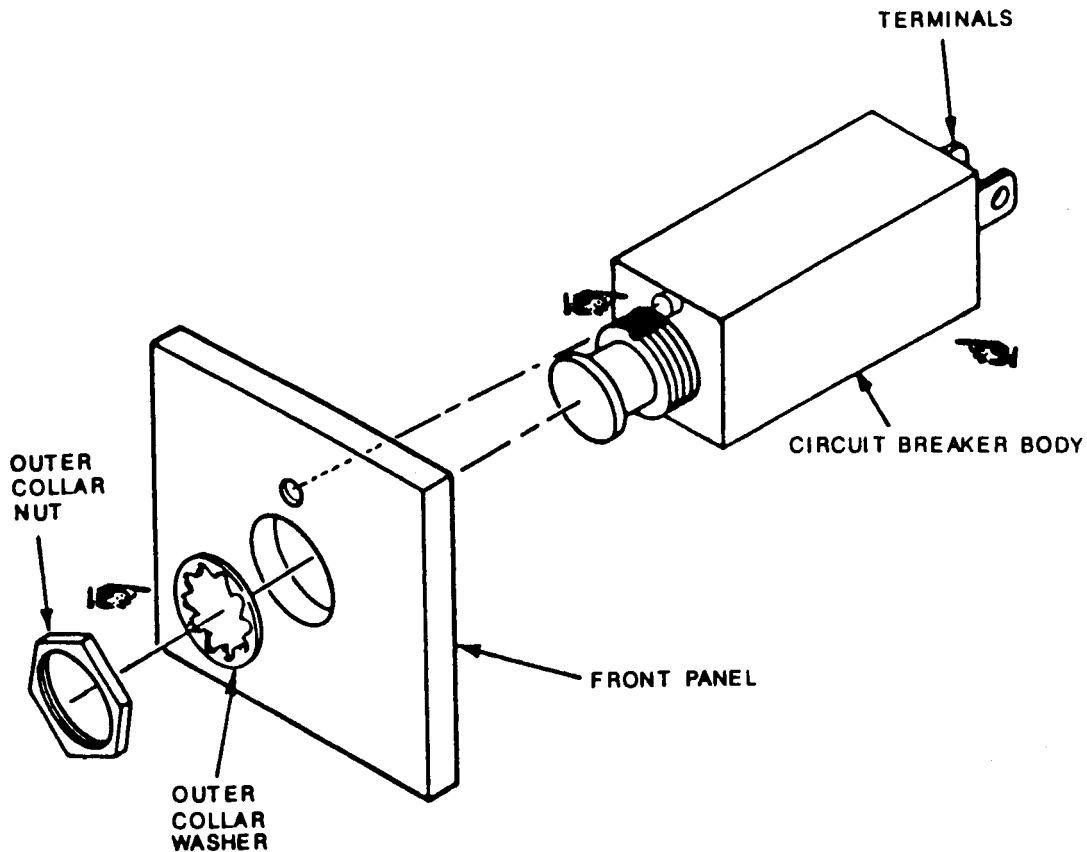

Figure 5-18. Circuit Breaker Replacement
x. Circuit Breaker CB1 Removal and Replacement. Refer to figure 5-18 and proceed as follows:
- (1) Remove front panel in accordance with paragraph 5-12b.
- (2) Tag the wires to identify circuit breaker (5) connections.
- (3) Remove the wires from the circuit breaker.
- (4) To replace, remove the outer collar nut (4) from the replacement circuit breaker.
- (5) Attach the wires to the circuit breaker (5) as tagged.
- (6) Replace front panel in accordance with paragraph 5-12b.
- (7) Refer to section V of this chapter.